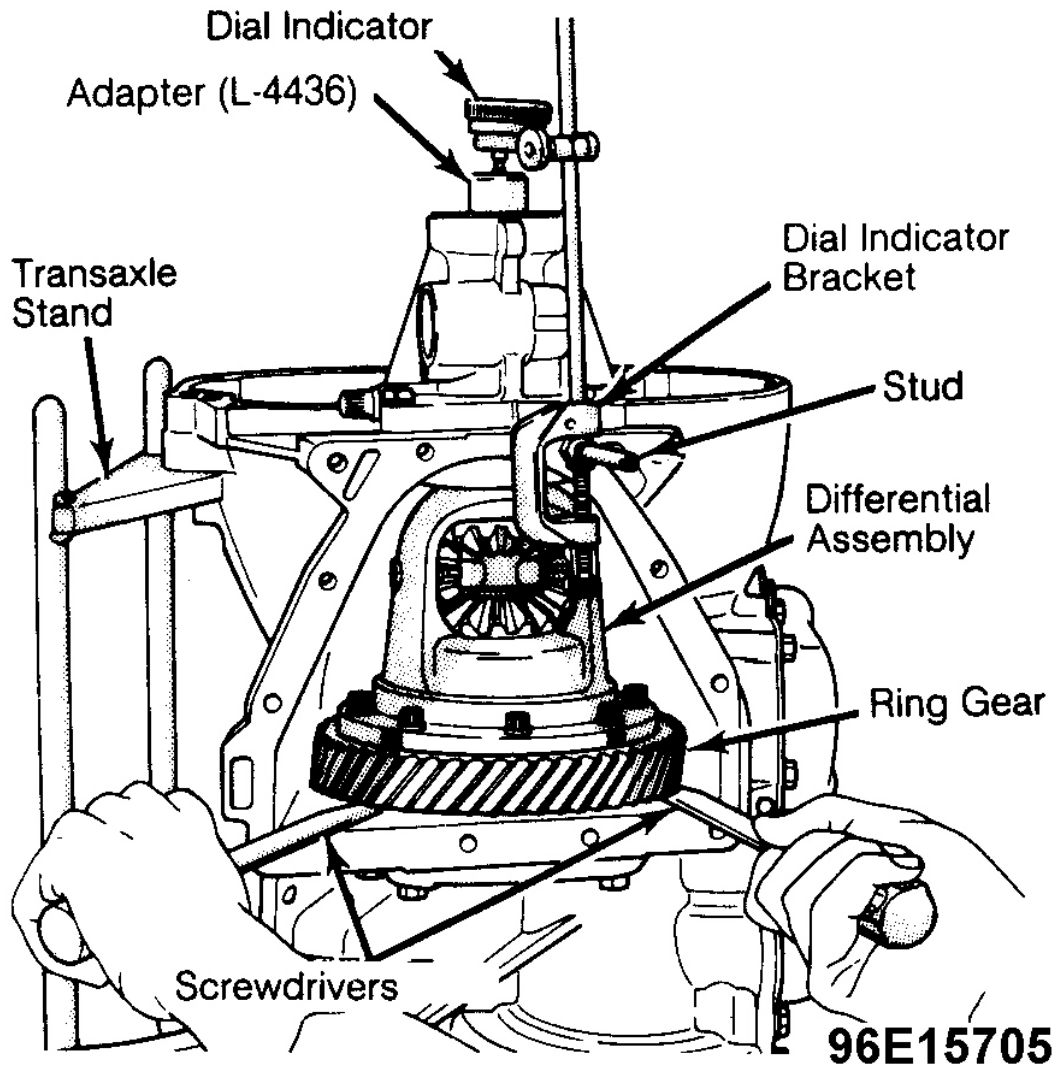

Fig. 23: Measuring Differential End Play
5. Attach dial indicator to case. See **Fig. 23** . Position indicator tip on end of adapter and zero dial indicator.